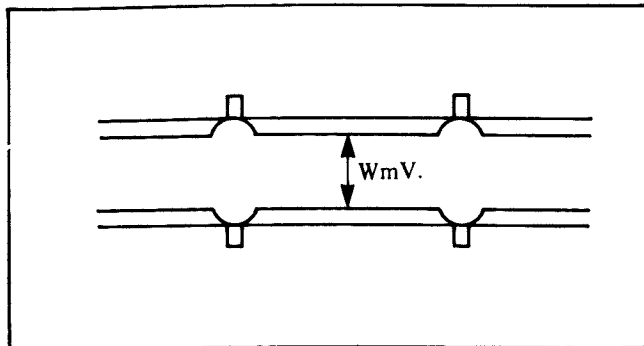

Fig. 11. Y RECORDING CURRENT
12. Place the unit in the Record mode. Then adjust VR6 (Y CURR) until the amplitude shown as "WmV" in Fig. 11. is equal to the signal generator level written down in step 9.